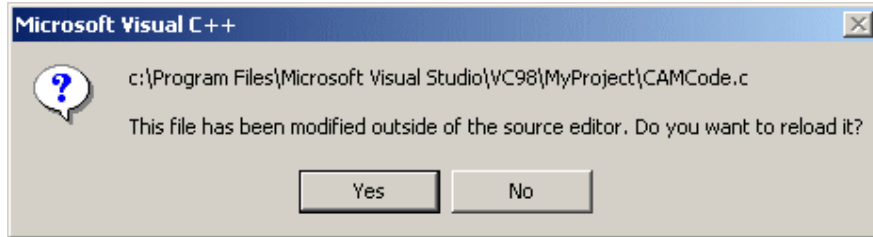

Figure 16: Reloading new AD2 C-code files
2. It is not necessary to add these C-code files to the project again. If VC++ is already open then it will give a warning (figure 16) that the files have been modified and will ask if the files should be reloaded. Click on "Yes".